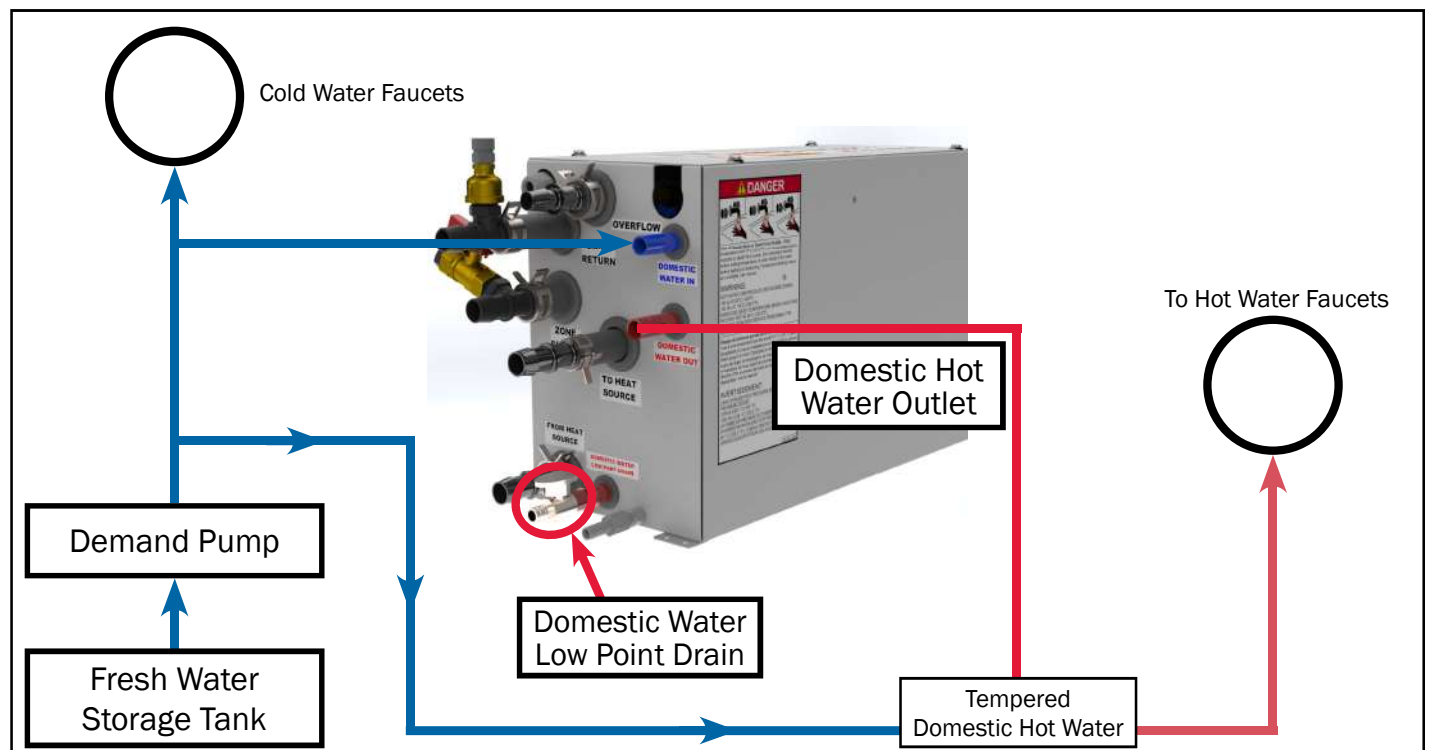

Figure 95
Please follow these instructions when winterizing the Aqua-Hot domestic water heating system. Reference Figure 95 for a system overview.
3. Open the Low Point Drain (as shown in Figure 95 below) and leave the drain open to allow any residual water to drain out.